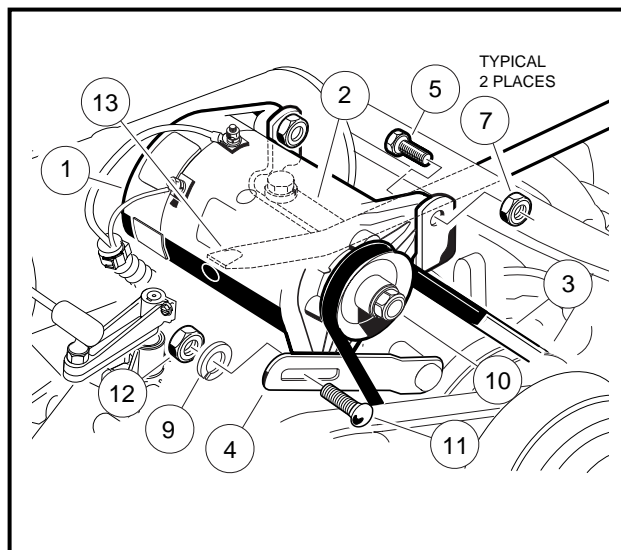
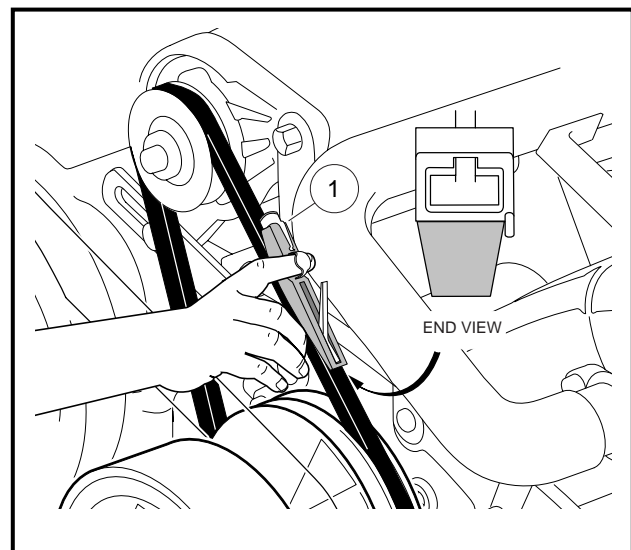

Figure 12-14 Starter/Generator Installation
Figure 12-15 Belt Tension Gauge
2. Install two 3/8 hex head pivot bolts (5) into the mounting bracket with the heads of the bolts facing towards the driver side of the vehicle. Position the starter/generator in the mounting bracket so that the bolts will go through the starter/generator before going through the bracket. Install a locknut (7) onto each bolt. Tighten to finger tight **(Figure 12-14, Page 12-12)**.
3. Install the adjustment bolt (11) through the adjusting bracket (4) and then through the starter/generator. Install a lockwasher (9) and 5/16 nut (12) onto the end of the adjustment bolt (11). Tighten to finger tight (**Figure 12-14, Page 12-12**).
4. Install the belt (3), then tighten the mounting bolts. **See Belt Tension Adjustment on page 12-12.**
3. Make sure the two pivot bolts (5) on the mounting bracket are finger tight. The carriage bolt (11) and hex nut (12) are to be finger tight also (**Figure 12-14, Page 12-12**).
4. Push the starter/generator down so it is at the lowest point of its adjustment travel. With the starter/generator belt fully in place around the drive clutch pulley, install the starter/generator belt (3) around the pulley (10) on the end of the starter/generator.
5. Position a pry bar (13) between the top of the starter/generator mounting bracket (2) and the underside of the starter/generator by passing the pry bar under the exhaust header.
6. While holding the pry bar, measure the belt tension using a Krikit[®] gauge (1) (available at NAPA[®] Auto Parts stores), or equivalent. Proper tension for a new starter/generator belt should be 75 ft-lb (101.7 N·m) or for an existing belt, 45 ft-lb (61 N·m) (**Figure 12-15, Page 12-12**).
7. While maintaining the tension, tighten the adjustment nut (12) to 12 ft-lb (16.3 N·m). Tighten the two pivot bolts (5) and hex nuts (7) to 23 ft-lb (31.2 N·m) (**Figure 12-14, Page 12-12**). See following **CAUTION**.